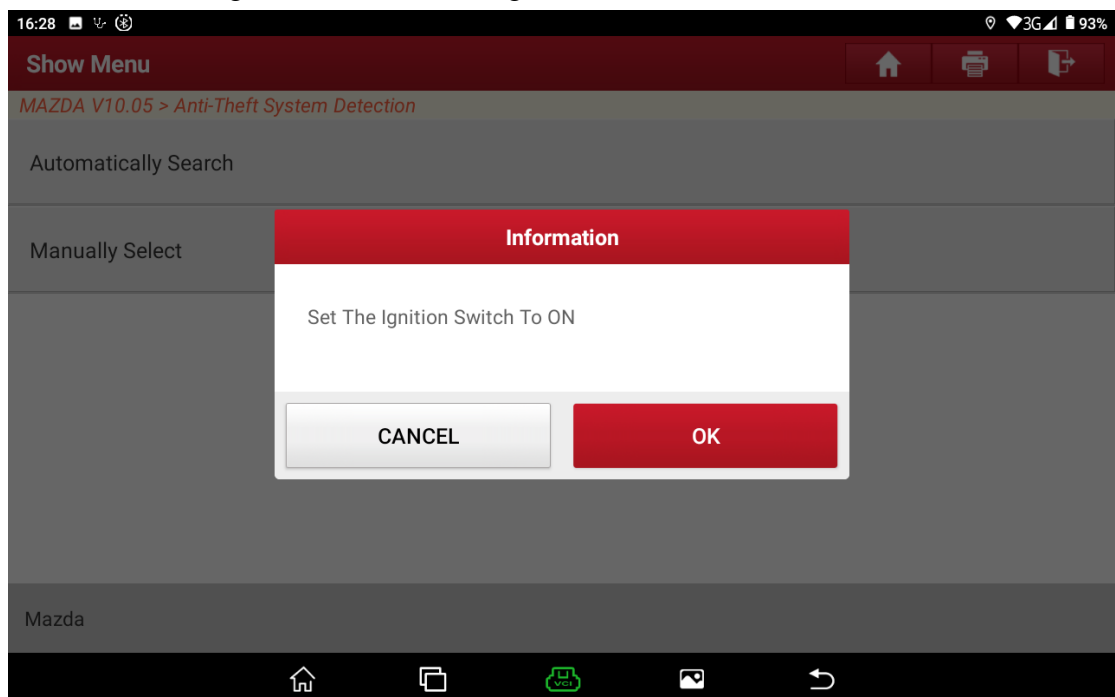

Figure 4
2. Turn on the ignition switch. See Figure 4.